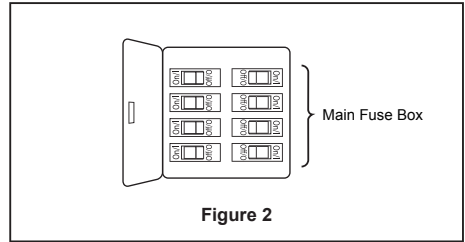

Figure 2
2. Assemble the switch housing assembly to the support bracket using the two key slots in the switch housing assembly. Replace the previously removed screw and securely tighten all three screws. (Figure 2)
2. Restore electrical power to the outlet box by turning the electricity on at the main fuse box. (Figure 2)